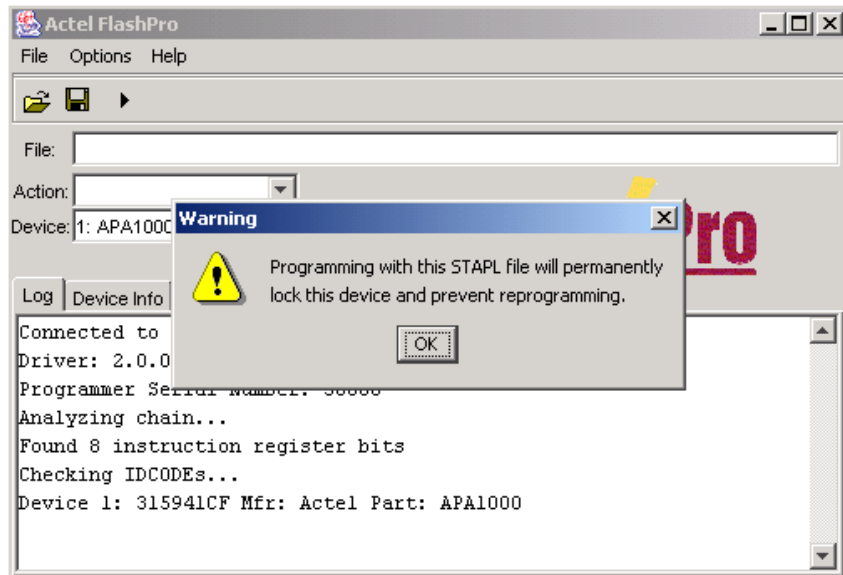

Figure 2-19. Permanent Lock About Dialog Box
2. Select your permanent STAPL file and click *Open*. The Permanent Lock About dialog box displays, as shown in Figure 2-19.